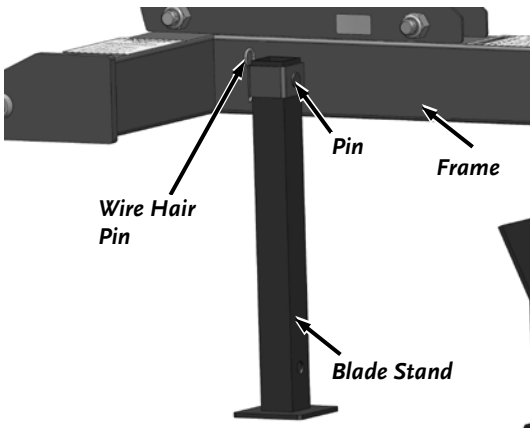

Figure 12
7. Using the Tractors Lift Arms, raise the 3PT REAR BLADE slightly off the surface. Remove the Wire Hair Pin and Pin that secure the Blade Stand to the Frame (**Figure 12**).